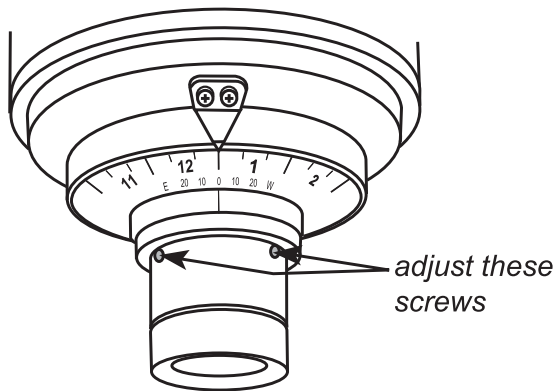
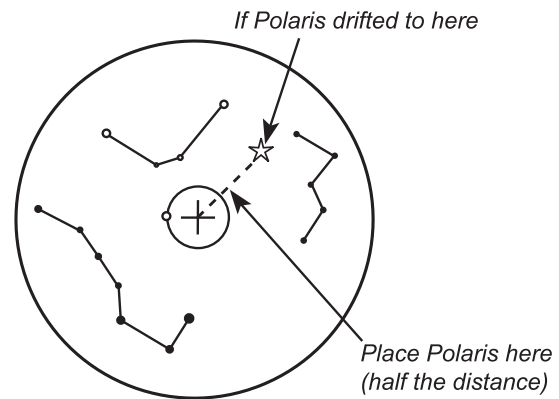

Fig. 3.4a
Fig. 3.4b
4. If the target deviated from the reticle, then use a 1.5mm Allen wrench to adjust the three small Allen screws on the polar scope (Fig. 3.4a ) to eliminate the deviation to half. (Fig. 3.4b)